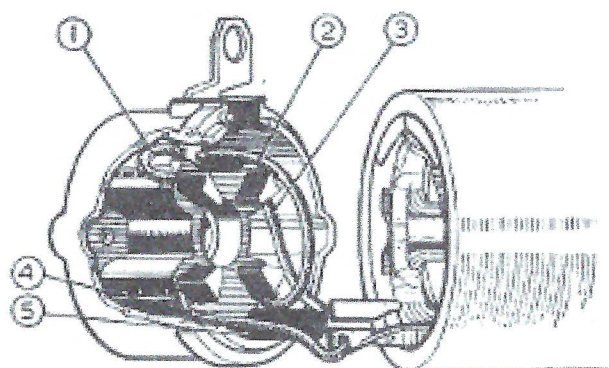

Fig. 4 Brushgear and terminal arrangement
**Renewing the brushes:** Note which of the two field coil conductors is fitted with the long and short brush-flexibles, then cut the worn brush-flexibles from the field coils and solder the new brushes in position. Replace the other two brushes complete with terminal link and moulded rubber grommet. Ensure the new brush set is correctly fitted in accordance with Fig. 4.
Loosely fit the new field coil assembly (with pole-shoes) into the yoke, with the threads of the pole-shoe fixing screws only partially engaged. The through bolt insulating pieces should now be assembled into the yoke, by sliding the shoulders of the insulating pieces between the field coils and the yoke, in a position 180° apart and 90° each side of the field coil brush connection point (refer Fig. 4). Now tighten the pole-shoe screws progressively to a torque of 30 lbf ft (40.70 Nm). Finally, make a good earth connection between the end of the field winding and the yoke.